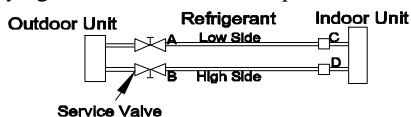

Fig. 15 – Service Valve
1. Completely tighten flare nuts A, B, C, D, connect the manifold gage charge hose to a charge port of the low side service valve (see Fig. 15).